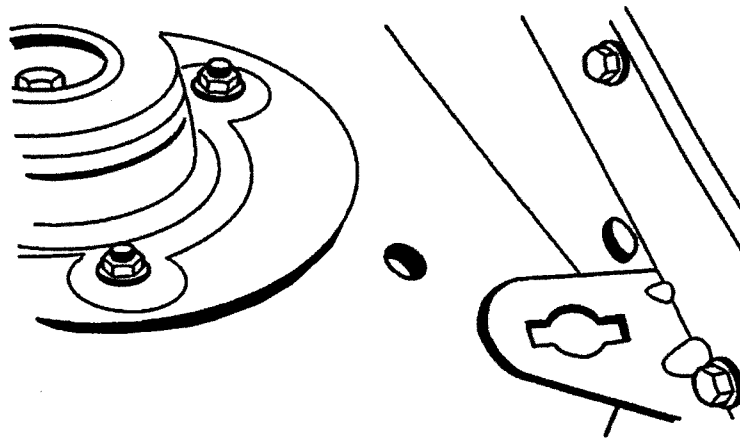

Fig. 1
8. Remove hood alarm switch, if equipped (Fig. 1).